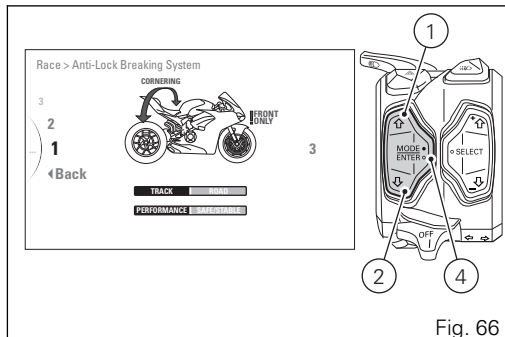
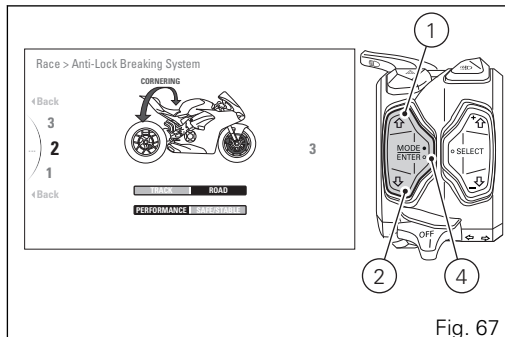

Fig. 66
Fig. 67
With buttons (1) and (2) select the new level of intervention desired. For each highlighted level, the corresponding paired value in the central table (highlighted with a black background) will be displayed. Moreover, the braking system intervention level will be indicated in Light Blue: "**FRONT ONLY!**" (Fig. 66) for front brake active only, "**CORNERING**" (Fig. 67) for Cornering function active.